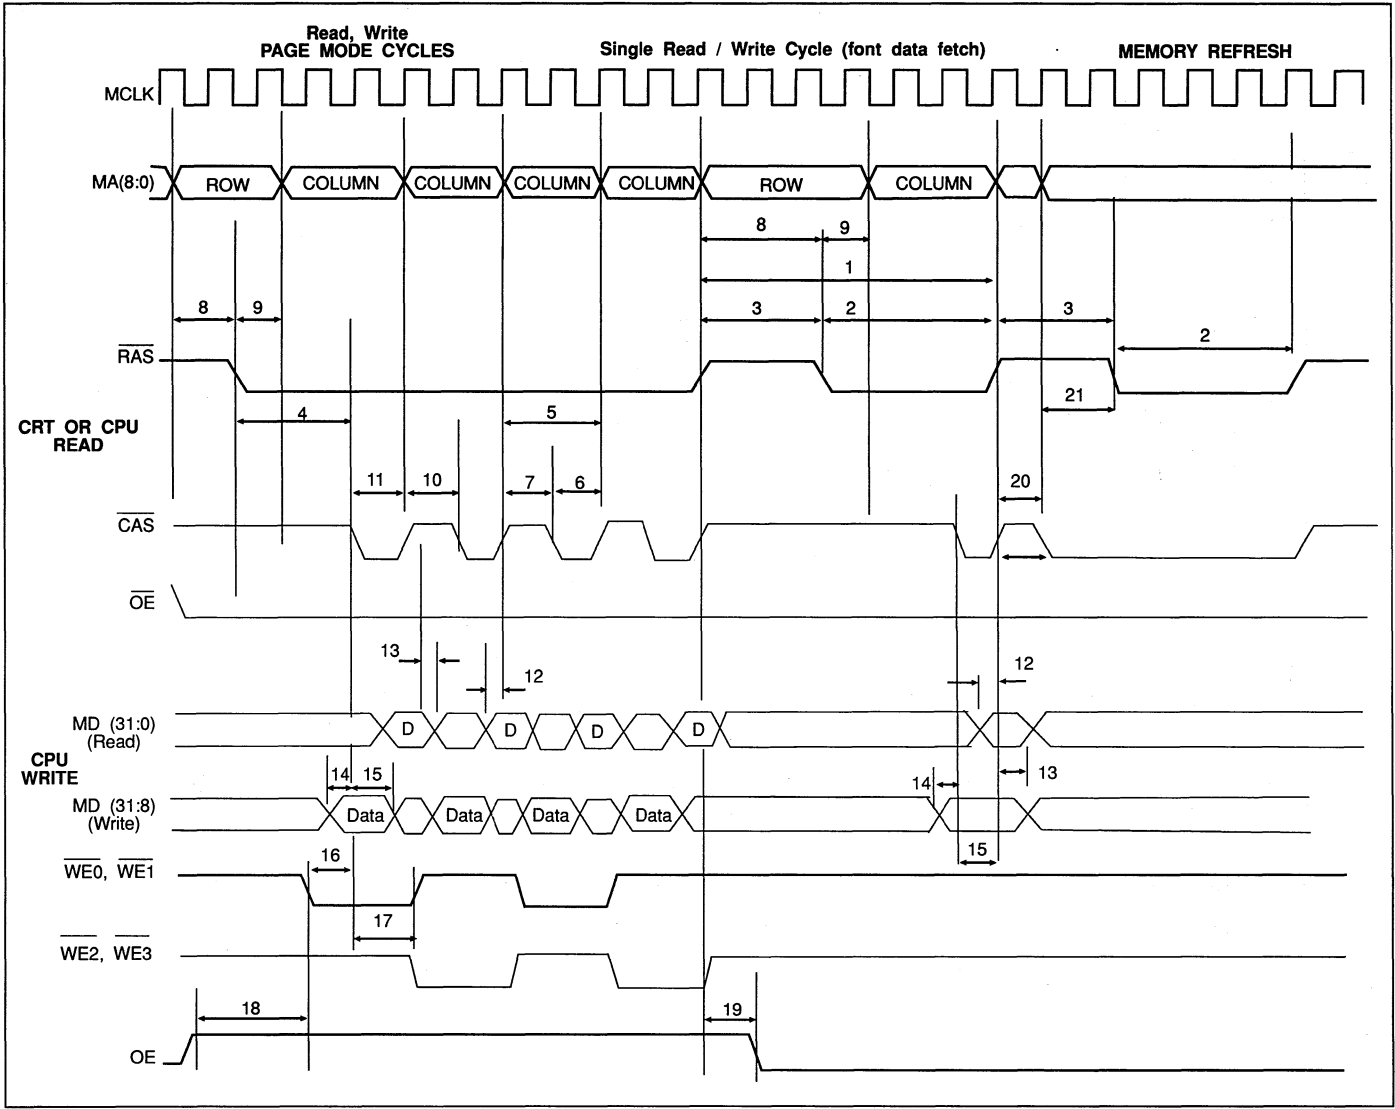

FIGURE 9. DRAM TIMING
**DRAM Timing Adjustment:** The  $\overline{\text{RAS}}$ ,  $\overline{\text{CAS}}$  timing can be adjusted by register PR33 (3C5H, Index 3H) bits 4 through 0. Only the following timing may be affected: (See Figures 9 and 10).